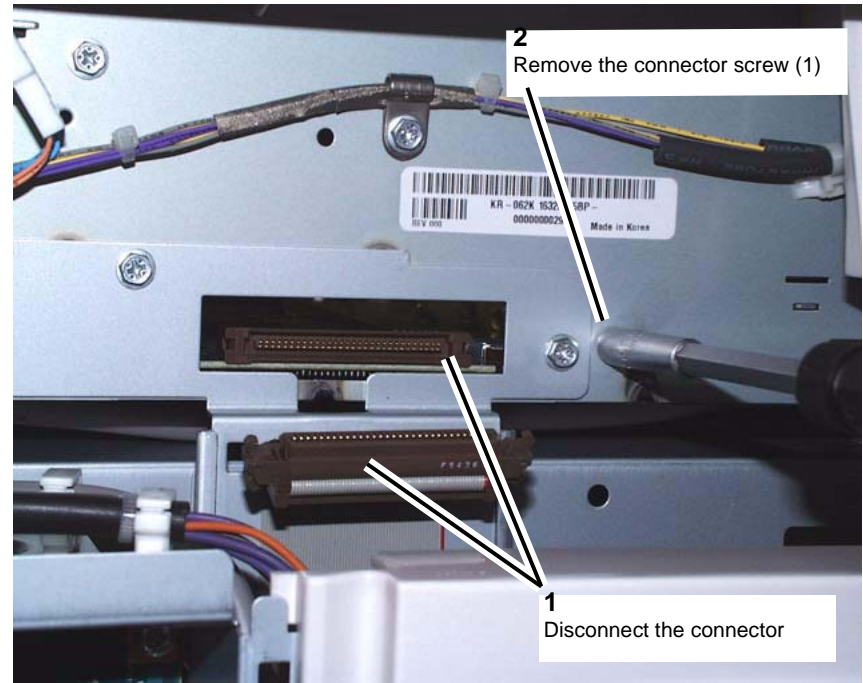

Figure 3 Disconnect the connector and remove the screw (1)
5. Disconnect the connector from the left rear IIT/IPS PWB and remove the screw. (Figure 3)